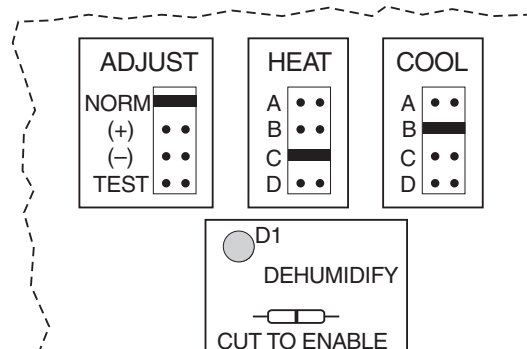

Figure 2
Locate the motor control board in the blower control box. Set the HEAT and COOL CFM taps by moving the board jumpers to the A, B, C, or D positions (see Figure 2) based on the information found in the **Application Table** on page 11. The ADJUST tap on the control board can be used to raise or lower the table CFM's. The (+) tap will raise the table CFM by 10%, and the (-) tap will lower the table CFM by 12%. **IMPORTANT: When changing the control taps, the high voltage must be off in order for the new settings to take effect.**
**Special note for units equipped with a humidistat:** If using a humidistat, the dehumidify resistor located on the bottom right of the control board must be removed (see Figure 2).